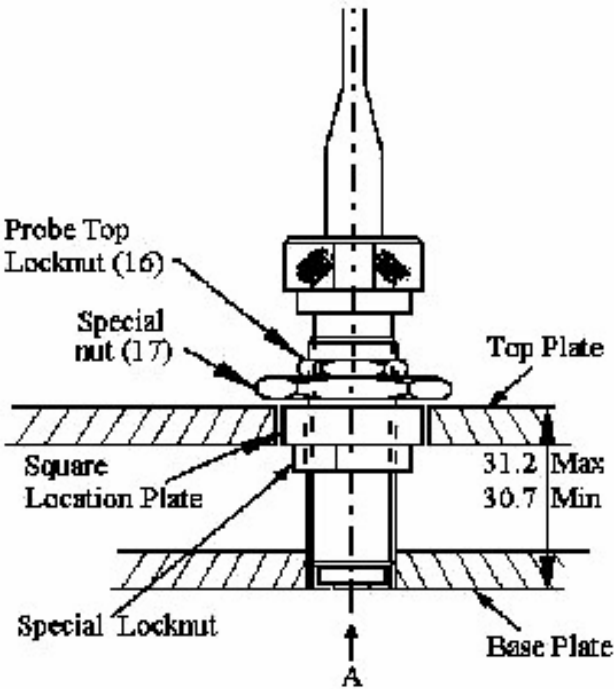

Figure 1: WSP Probe in Jig
- 5.6 Check that top of the location plate (on the probe) is flush with the top of top plate of the jig see Figure 1.